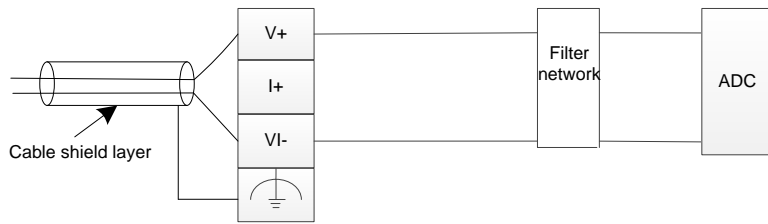

Figure 5.16 Wiring of voltage input
- For current input, connect V+ to I+ in short circuit mode, as shown in figure 5.16, and ensure the current input is within the range.